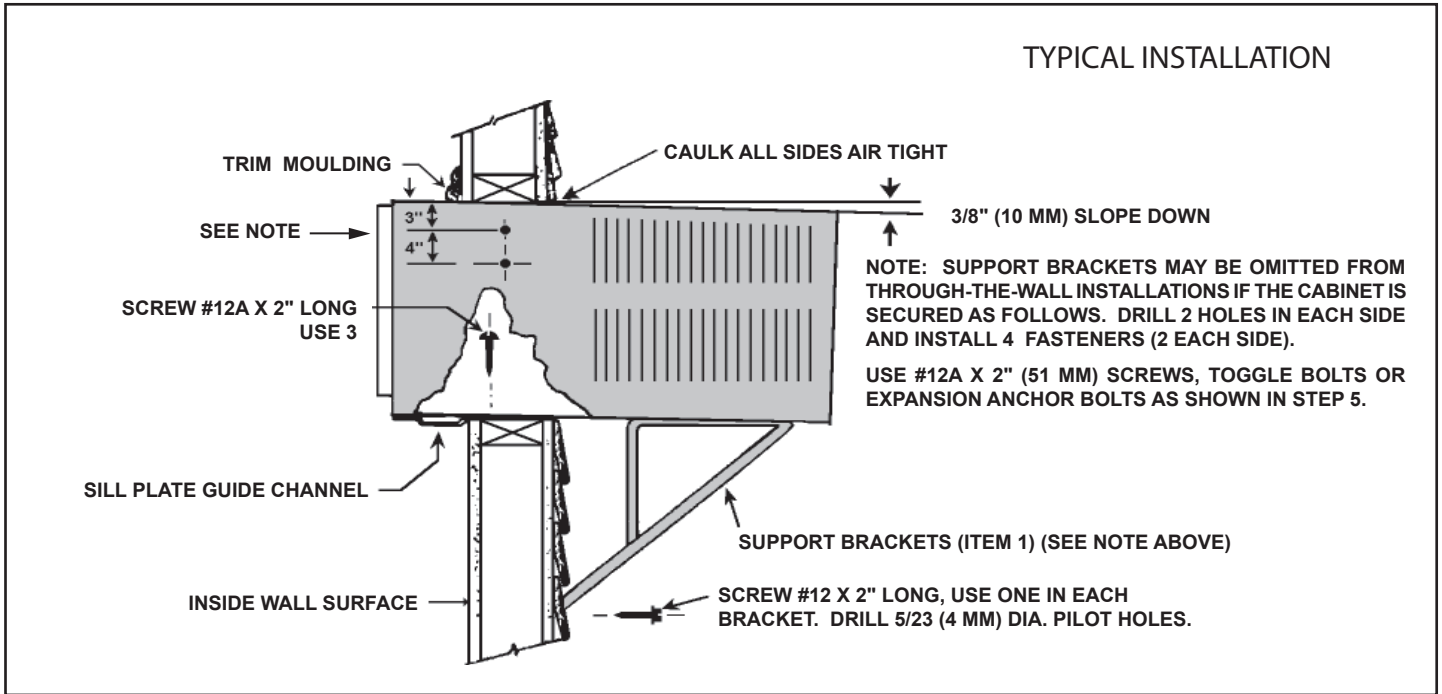

Figure C.6.4
STEP 3. Slide the cabinet into the hole far enough to allow the guide-channel of the sill plate to contact the inside wall surface (See Figure C.6.4).
STEP 4. Drill three (3) 5/32" diameter pilot holes through holes in sill-plate into the framing and install three (3) #12 x 2" long screws (Item #4) (See Figure C.6.4).
5. Drill two (2) 5/32" (4 mm) dia. pilot holes in each side at the locations shown (See Figure C.6.4) and install four (4) #12 x 2" screws (Item #4). If the hole construction in Step 2 provides a sturdy mount with solid vertical studs, no support brackets are required. The installation must support the weight of the unit plus an additional weight of 400 pounds (185 kg) on the rear of the cabinet. The support brackets may be used for thru-the-wall installations as shown in Figure C.6.4, for additional support.
6. If desired, trim around the cabinet on the room side with a suitable frame molding furnished by the installer (See Figure C.6.4).